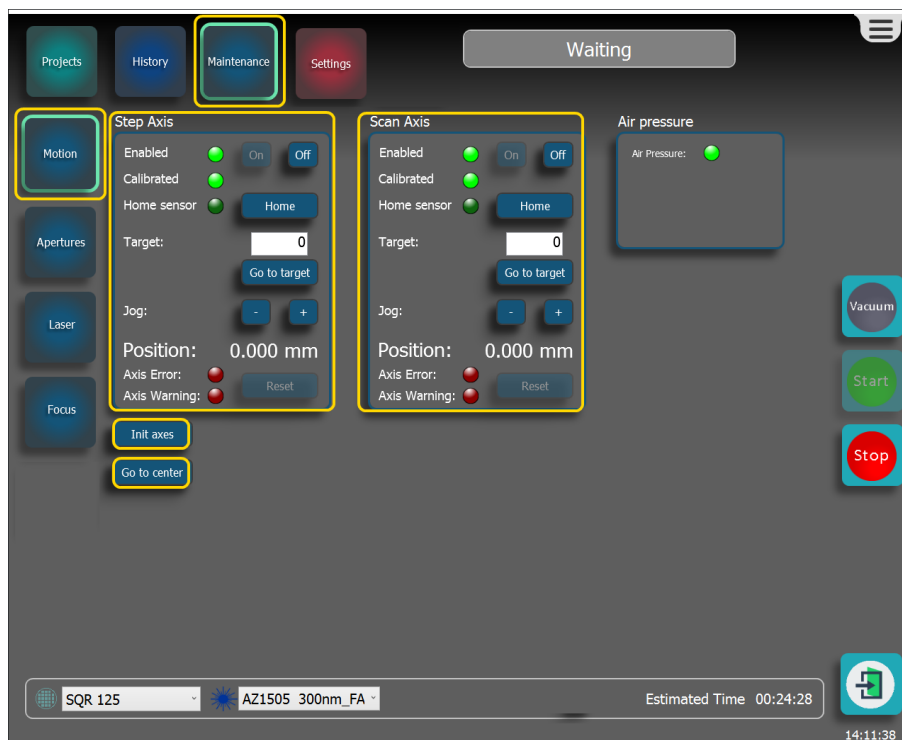

Figure 4-5 Basic motion control window
2. Select **Motion** in the side bar. The Motion screen becomes visible, see **Figure 4-5 below**.